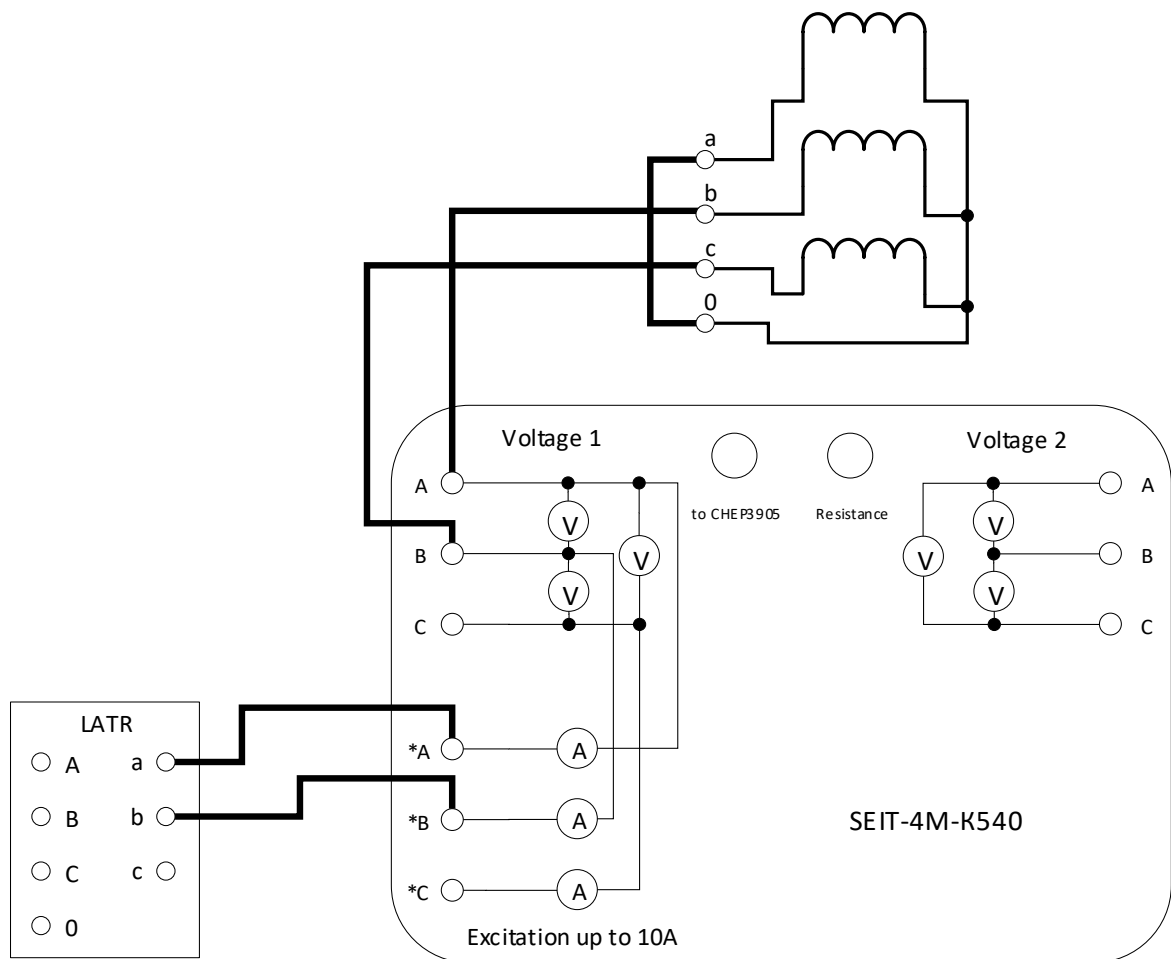

Fig. 15. Open-Circuit Test at Low Voltage for Y₀-Connected Windings
1) Close the transformer phase A winding onto short-circuit, excite phases B and C, and measure the losses. The measuring circuits of this test for the Y_0 and Δ winding connection circuits are shown in Figs. 15 and 16, respectively.